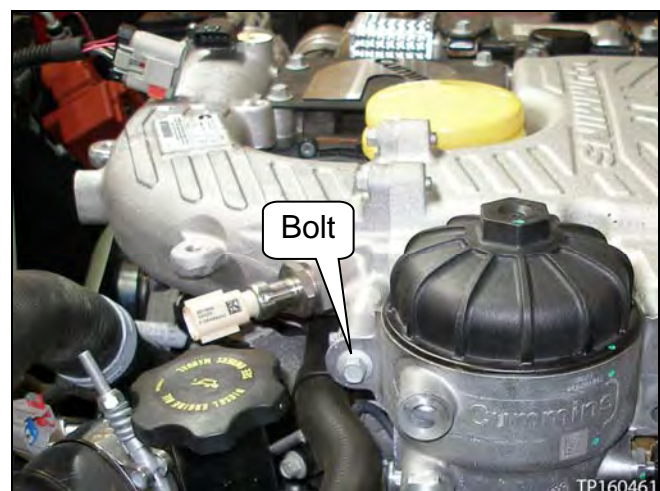

Figure 94
37. Mount the stage 2 fuel filter assembly with the one bolt (see Figure 94).
- Also apply the torque above to the bolt shown on page 41, Figure 94.